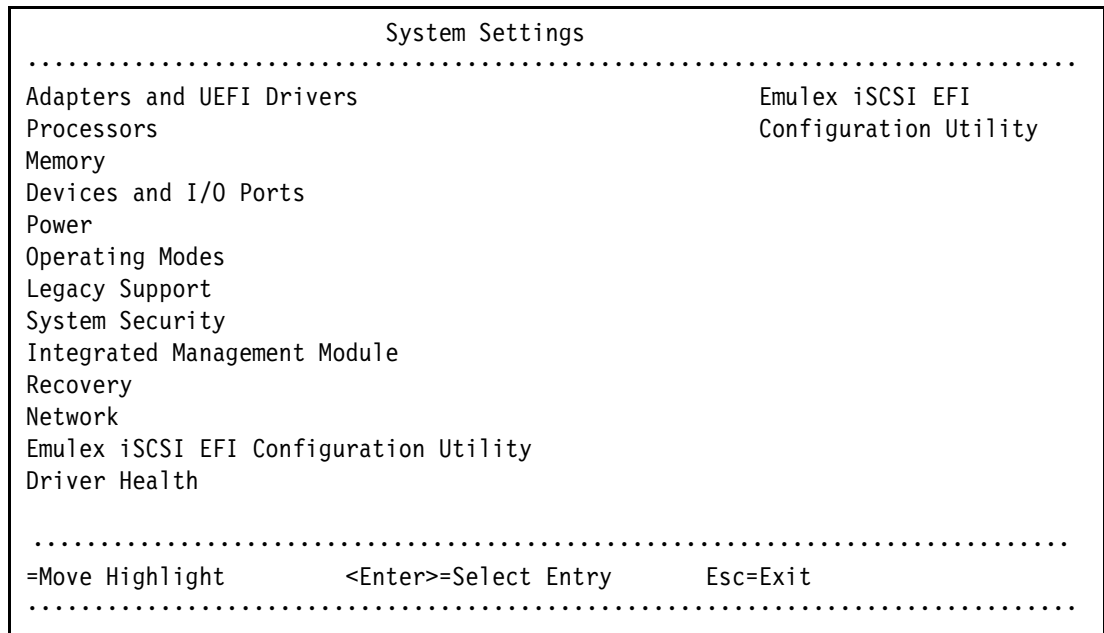

Figure 9-4 Selecting Emulex iSCSI EFI Configuration Utility on the System Settings panel
2. In the System Settings panel (Figure 9-4), select **Emulex iSCSI EFI Configuration Utility**, and then press Enter.